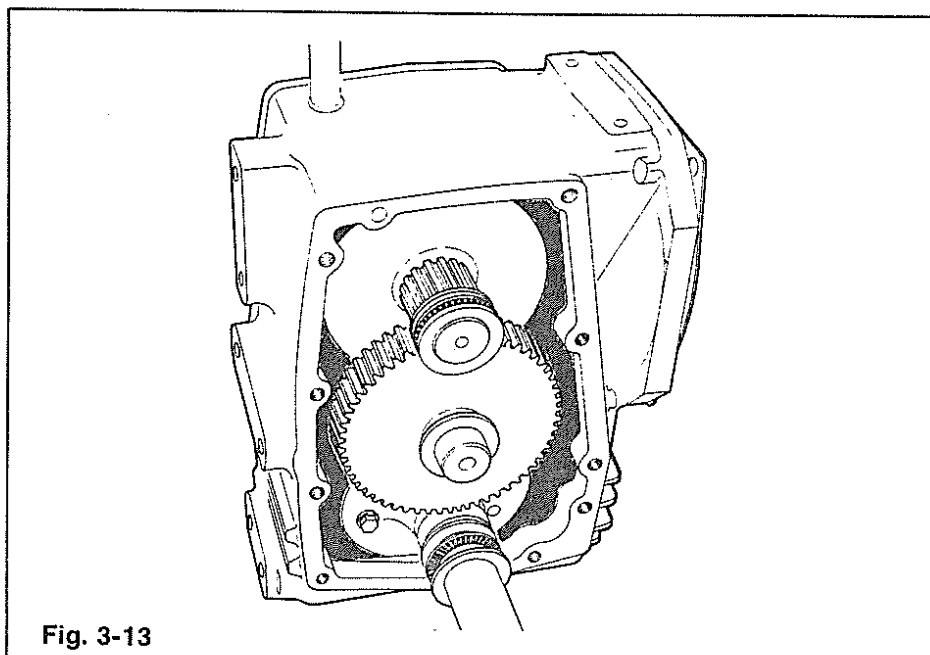

Fig. 3-13
7. The right side of the bevel gear must have a thrust bearing assembly. The cluster gear must have a thrust washer and the axle shaft a spacer and Torrington bearing assembly. Refer to Figure 3-13. After the bearings and spacers are